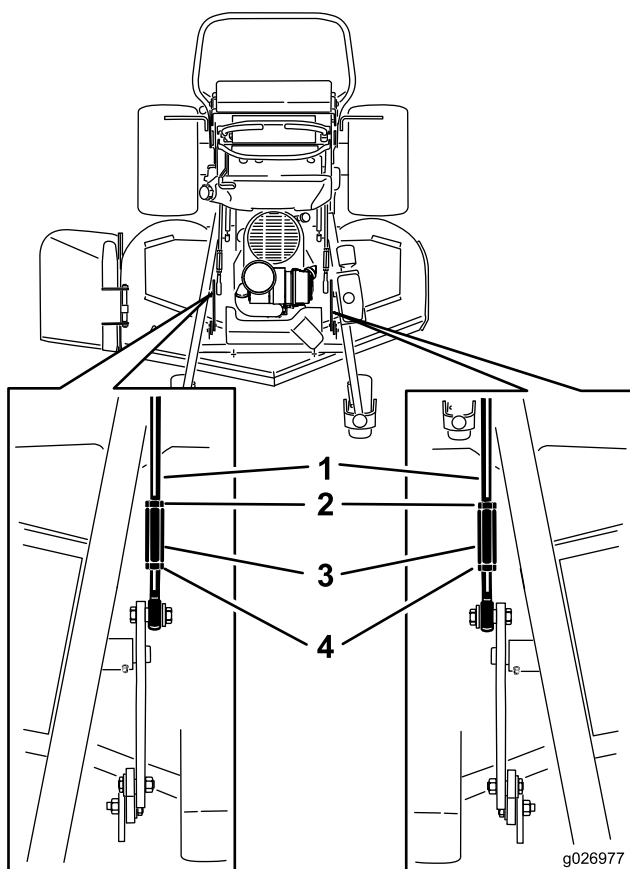

Figure 90
4. For 60-inch mower decks, loosen both the front and rear nuts and lift links on the adjustment rods (Figure 90).
5. For 60-inch mower decks, tighten the lift links (Figure 90).